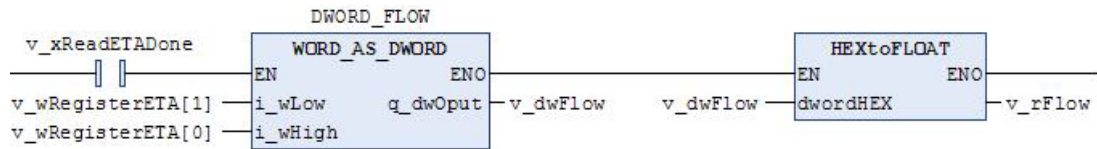

Figure F4-8
④Convert the read data into instantaneous flow rate, as shown in Figure F4-8, v_RFlow is the instantaneous flow rate: